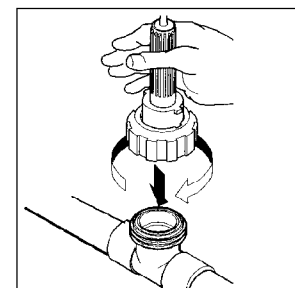

FIGURE 18
Reinstall pH sensor into flow assembly (see fig. 18), close sample valve and slowly open isolation valves.
9. Reinstall ORP sensor into flow assembly (see fig. 18), close sample valve and open isolation valves.